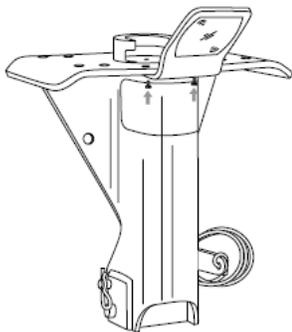

Figure 6.15
- ✓ Rotate handle to this position (Figure 6.15) and raise trailer off ball. Coupler will return to load position automatically.
- ✓ Install safety pin and clip (Figure 6.15).